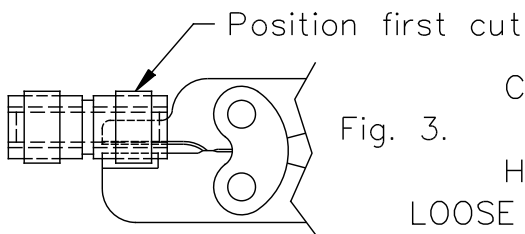

Fig. 3.
- Open tool and rotate tool or pipe/fitting 180° and cut ring a second time. Fig. 3.